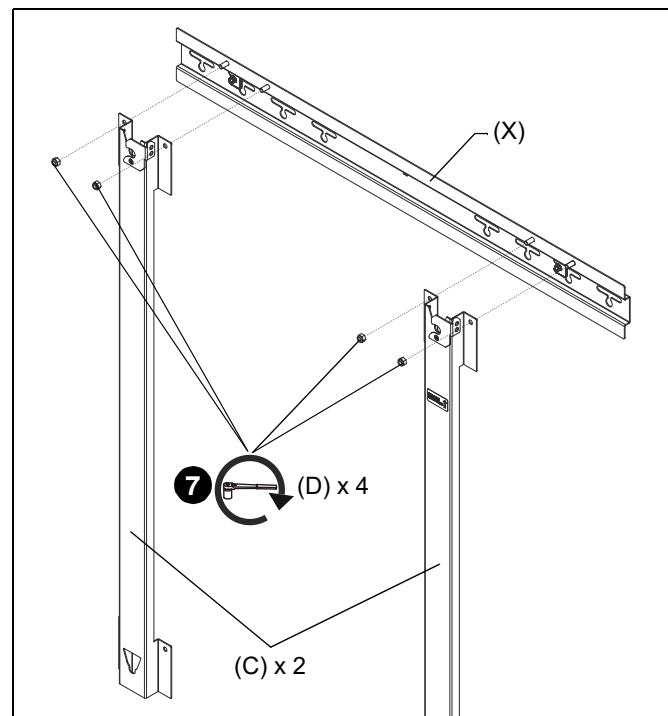

Figure 3
7. Loosely install two vertical brackets (C) to upper wall plate (A) using four 5/16-18 lock nuts (D). (See Figure 3)